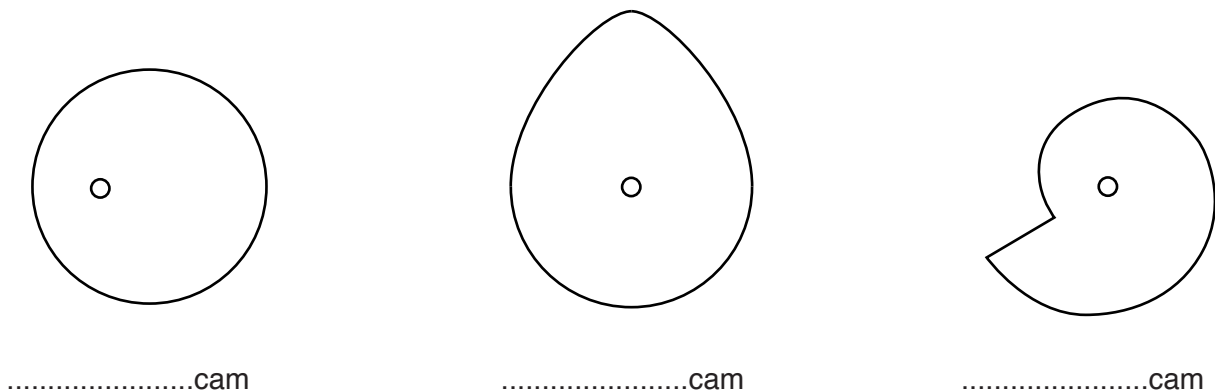

Fig. 14
- (c) (i) Name the cam shapes shown in Fig. 14.